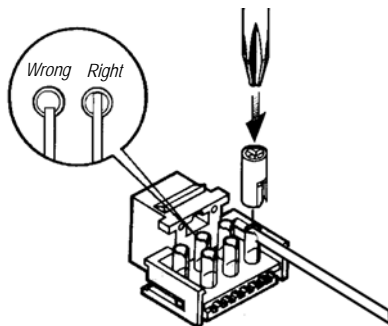

Figure 9
2. Hold wire in "V" at top of terminal with wire end touching inside back of terminal. Orient slot in stuffer cap above wire and slide cap down over terminal and wire. Terminate wire by pushing cap straight down with a No. 1 phillips screwdriver until cap is fully seated on terminal (Figure 9).
Strip cable jacket to dimension shown in Figure 11. Make crossovers as indicated. Terminate each wire as shown in Figure 9.